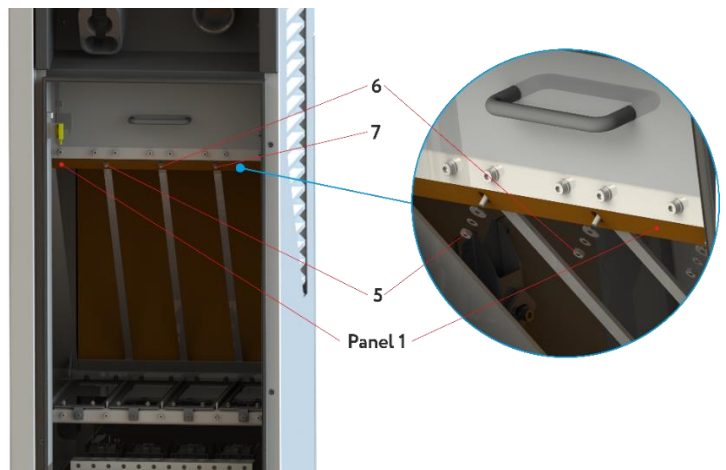

Figure 5.16. Installation location of charging modules
8. Remove the fasteners 5, 6, 7 and remove the protective Panel 1 (fig. 5.16).